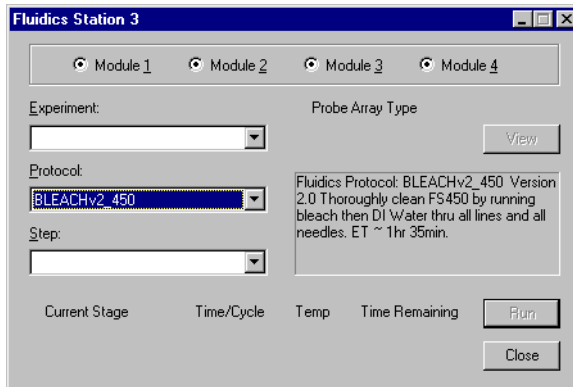

Figure 3.3
5. Open GCOS, Microarray Suite, or the current version of the Affymetrix control software. Click **Run** → **Fluidics...** from the menu. Alternatively, click the down arrow Protocol list on the toolbar. The protocol window appears (Figure 3.3).